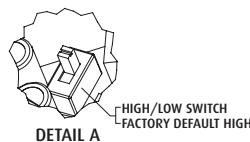

**Fig. 4 - SURFACE MOUNTING OPTION**
6. (For the SURFACE mounting option only) Note that the inserts fit flush to the housing only in one orientation (see Fig. 4). Prior to applying either of the Conduit Weather Gaskets, ensure proper orientation and fit of the desired inserts from the top or the bottom of the housing.